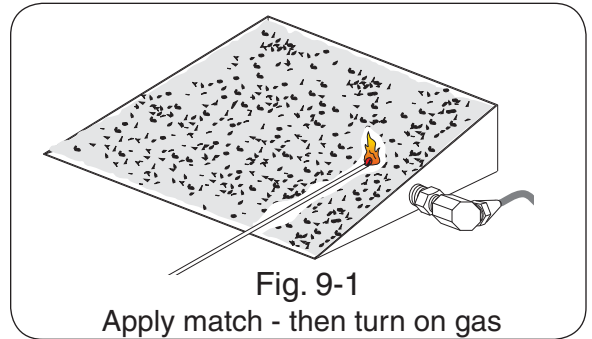

Fig. 9-1
1. Lay a lighted long-stem match on the surface of the embers/glass/gems near the gas inlet (**do not hold the match in your hand**) or use a lighted long-necked butane lighter (Fig. 9-1).
4. Wait approximately five (5) minutes to clear out any gas, and repeat steps 1-3 above.